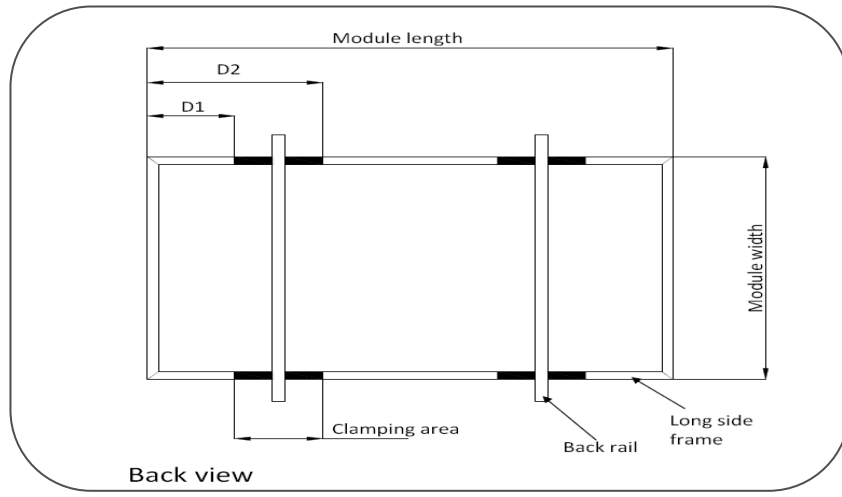
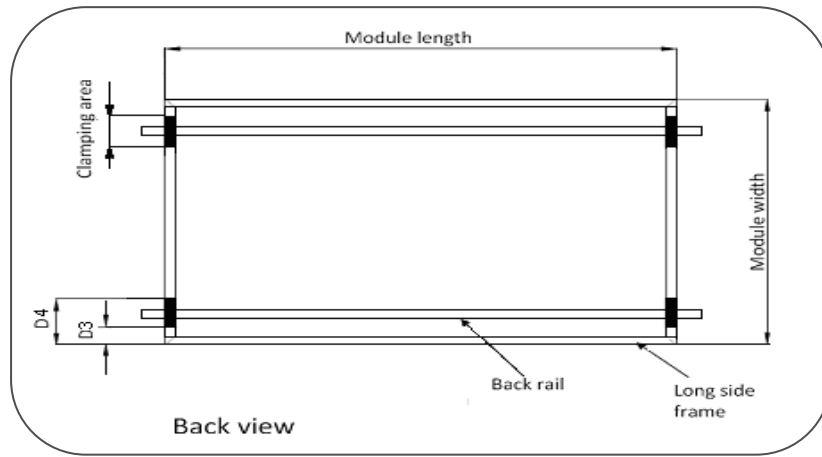

Figure 2 Long rail mounting clamp range (D1 and D2)
Figure 3 Short rail mounting clamp range (D3 and D4)
- b. The ranges of mounting places are illustrated in Figure 2 and Figure 3.
- Clamp on the long side of the frame (see Figure 2, measurements below)
- Clamp on the short side of the frame (see Figure 3, measurements below)